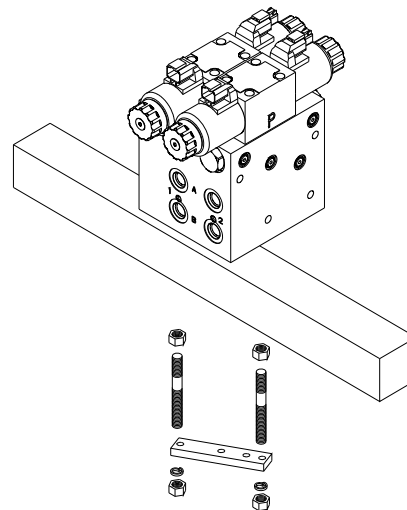

Figure 23: Valve Mounting Location
2. As shown in **Figure 23**, screw short side of the threaded rods into the bottom of the valve block at least 3/8". The valve mounting holes are drilled and tapped 3/8 NC-1" deep.